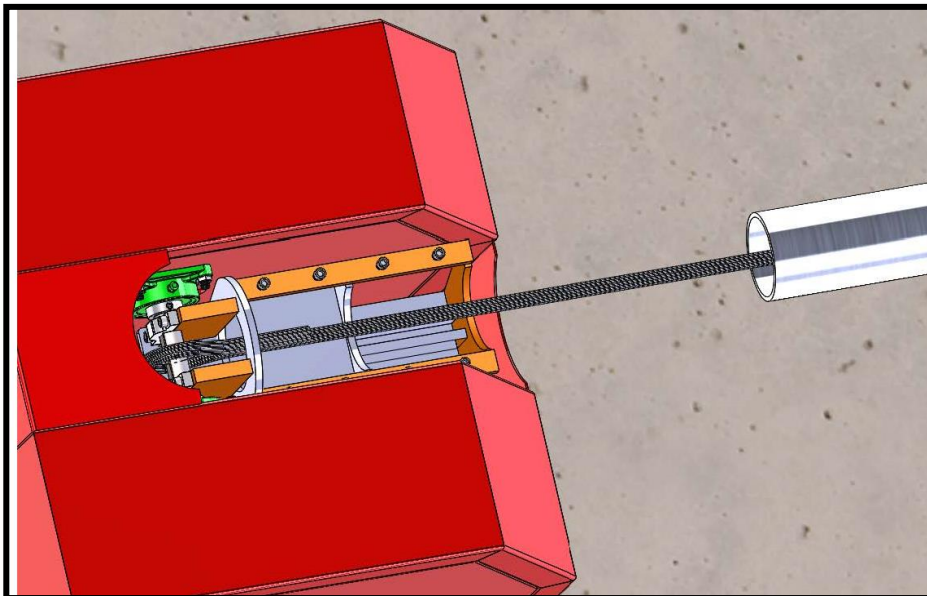

Figure 10 Aluminum Gate Arm Cable
1. Slip 3/4" cable through 4" aluminum gate arm all the way to the other end. See figure 10